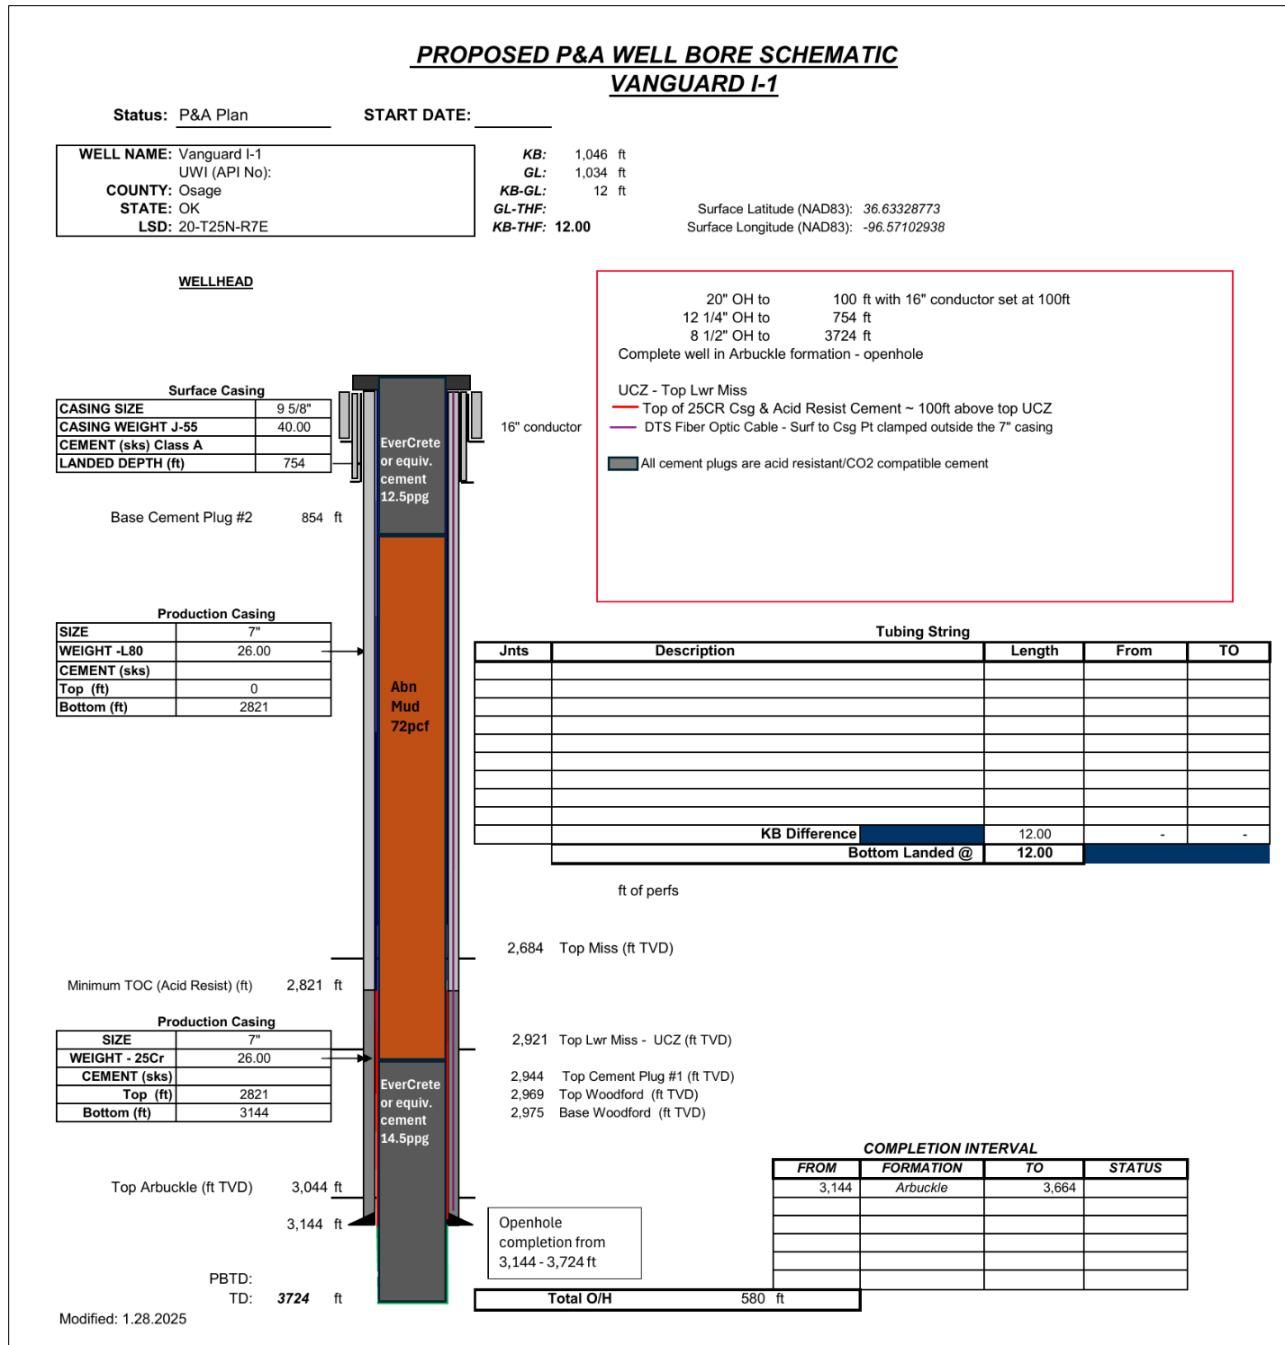

Figure 9-1—Wellbore Diagram of the proposed abandonment design for Vanguard I-1.
**Table 9-2** lists the individual cement-plug details for P&A of the Vanguard I-1 well, and **Figure 9-1** shows its proposed abandonment configuration.